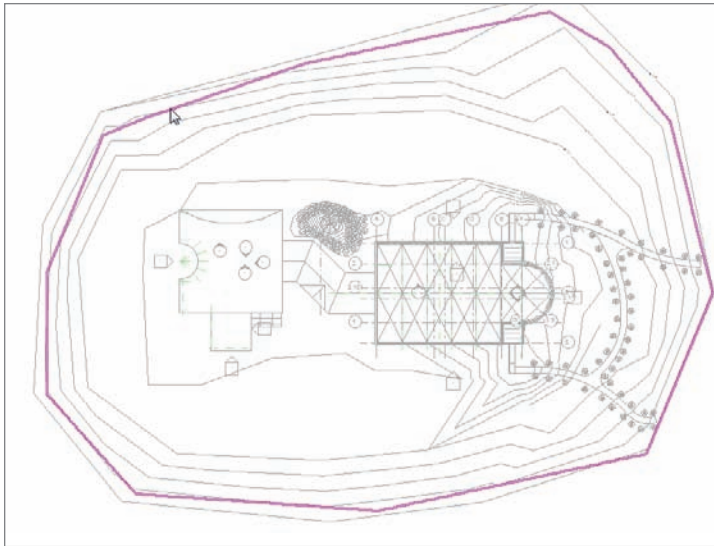

FIGURE 18.24 Sketching the property line
4. Draw a series of lines around the perimeter, as shown in Figure 18.24.